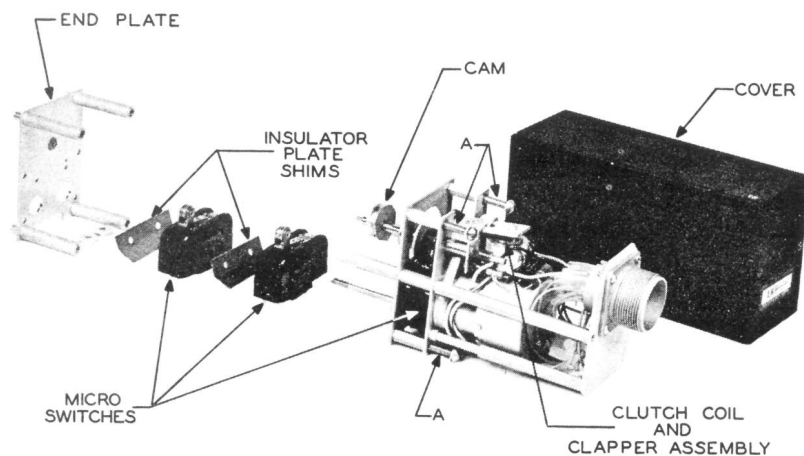
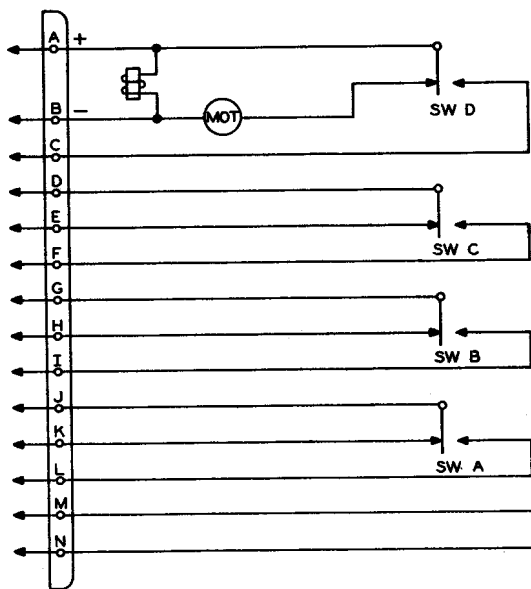

Fig. 1 – A. W. Haydon Timer
Fig. 2 — A. W. Haydon Timer, P-6421A-1 — Schematic Drawing
9.01 The A. W. Haydon timer used in the monitor station is coded P-6422 time delay relay. Fig. 1 shows the unit partially disassembled. The timer used at the monitor station has one
more Micro Switch than shown in Fig. 1. A simple schematic drawing of the timer is shown in Fig. 2.
9.12 To disassemble the unit, remove the two screws from the plug end of the unit. Then remove cover. (See Fig. 1.)
9.13 Remove the end plate adjacent to the Micro Switches by removing the two screws on the face of the plate plus the four screws marked A in Fig. 1.